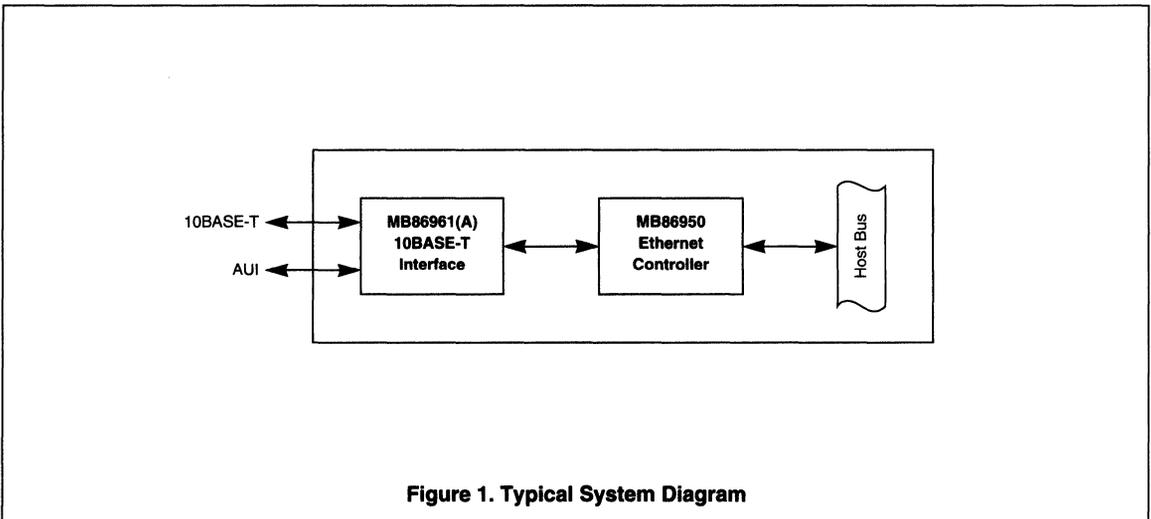

Figure 1. Typical System Diagram
Figure 1 shows the MB86961(A) in a typical application, interfacing between a controller and the RJ45 connector of the twisted-pair network. Figures 2 through 5 show detailed diagrams of various MB86961(A) applications.